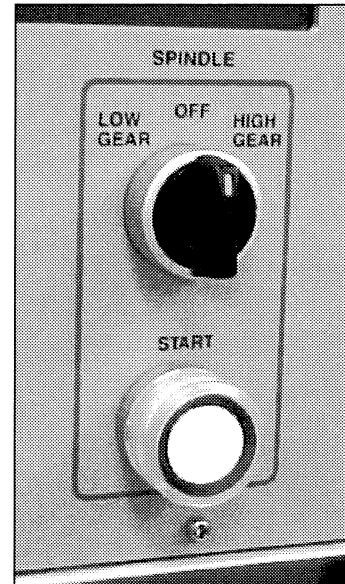

Figure 1-5: Spindle Gear Selector and Spindle Start Button on Control Panel
1.2.3 SPINDLE START BUTTON (Figure 1-5)
1.2.2 SPINDLE GEAR SELECTOR (Figure 1-5)